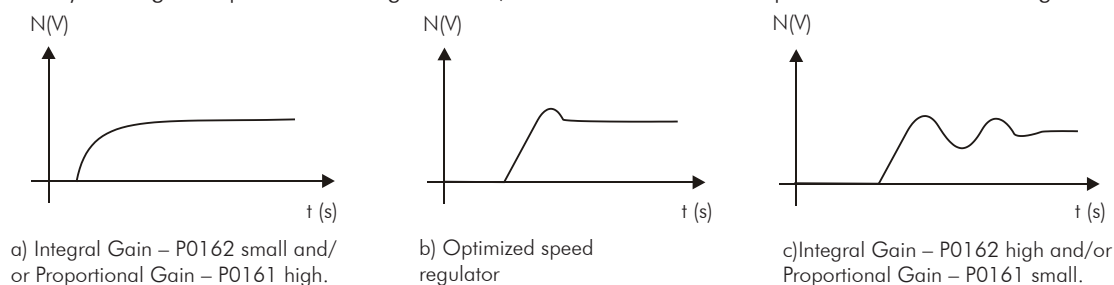

Figure 11.4 - Speed regulators response types
6. Verify among the options of the figure 11.4, which waveform best represents the observed signal.
7. Adjust P0161 and P0162 according to the response type presented in the figure 11.4.